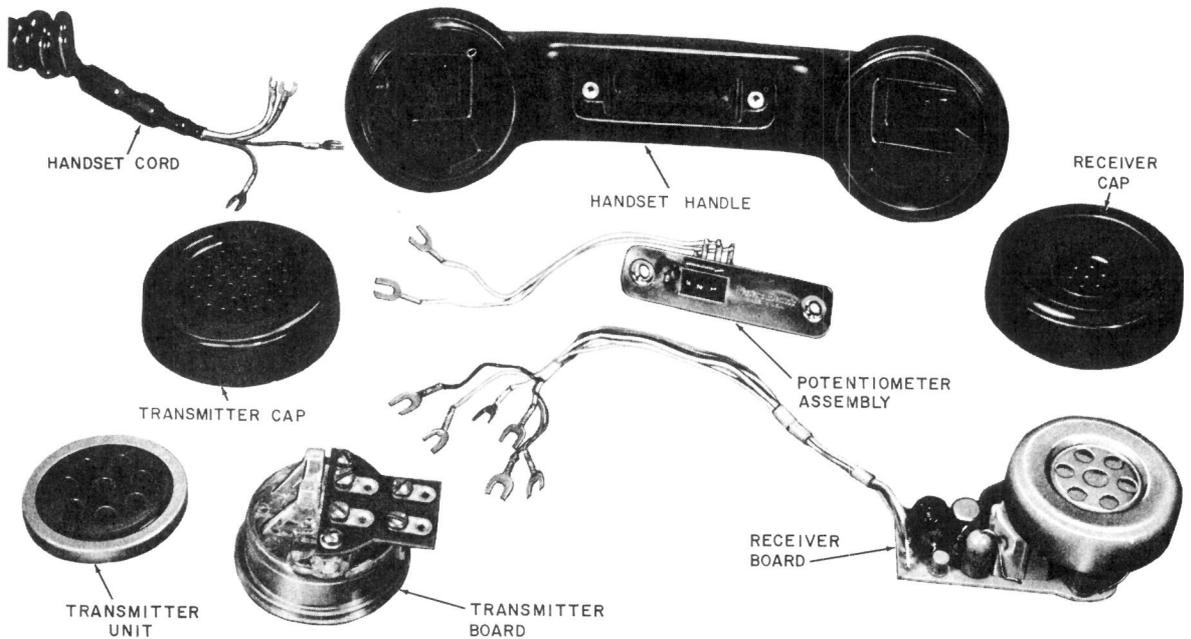

Fig. 1—G6B Handset Assembly (G7B Handset is Arranged Similarly)
2.03 The G6B handset (Fig. 1) has the transistorized amplifier and polarity guard units located on a printed circuit board in the receiver end of the handle. The amplifier, potentiometer assembly, and handset cord connect to a terminal board located in the transmitter cavity.